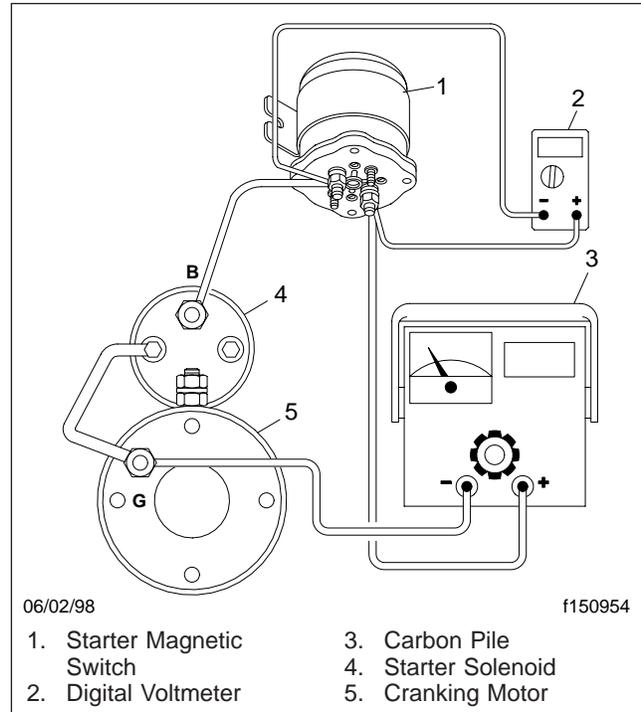

Fig. 1, Starter Magnetic Switch Contactor Test
3. Set a digital voltmeter on the low scale and connect the positive lead to the starter magnetic switch wire lead to which the carbon pile is already connected. Connect the negative lead to the other large terminal on the starter magnetic switch. See Fig. 1.